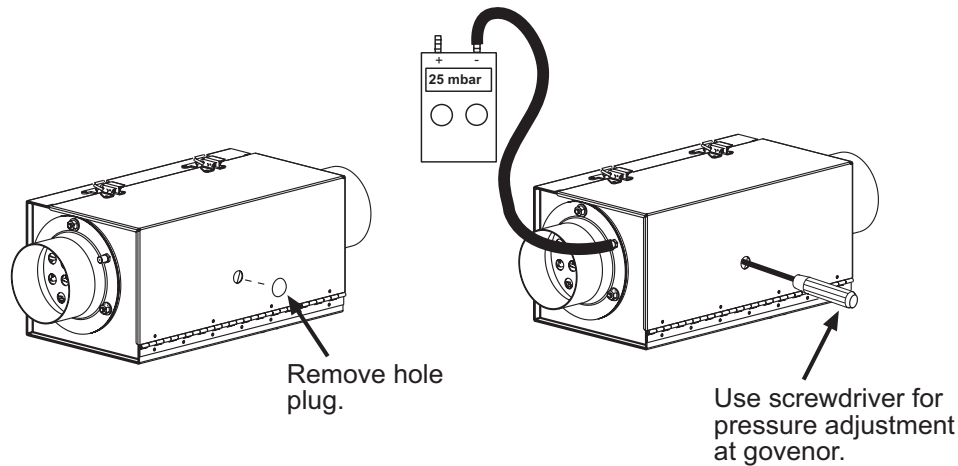

Fig. 32
- In the event that the burner setting pressure is incorrect, switch off the electricity supply to the appliance and remove the cap from the integral pressure governor for the Control Valve (see Fig.). Close the control box door and switch on the electricity supply to the appliance to ignite the burner. Remove the plug from the control box door and insert a suitable screwdriver through the exposed hole in the box to locate the governor adjusting screw. Adjust the pressure by turning the pressure governor adjusting screw clockwise to increase or anti-clockwise to decrease the burner setting pressure. See Fig. 32.